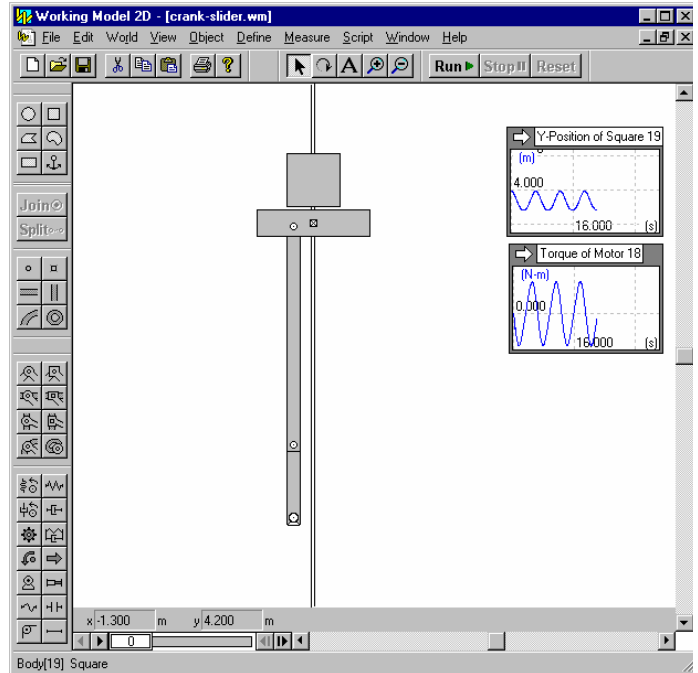

Figure 19. Crank slider example, Steps 7-12.
7. Select the point elements and join them. The links will now be joined, Figure 19.
8. Now add a motor to the short link at the pin joint connected to ground, Figure 19.
9. Draw a square block above link 3, Figure 19. This will be the load that is lifted.
11. Add a similar graph for the Y-Position of the block, Figure 19.